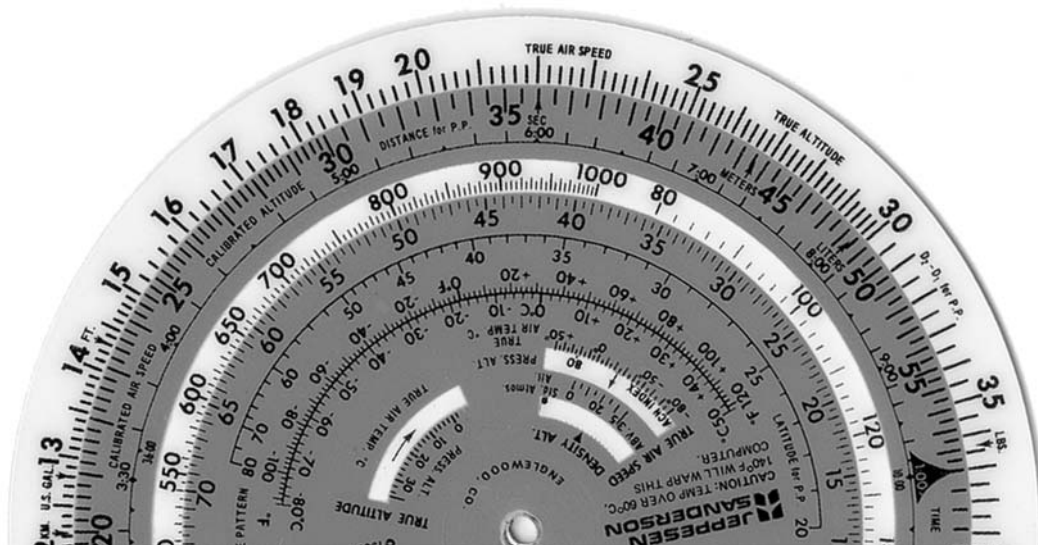

Figure 4.3-13 Minutes to Seconds
Conversions of minutes (and decimal minutes) to seconds, or vice versa, can be made by using the small "SEC" arrow and the rate index (▲) which are located on the TIME scale, see Figure 4.3-13. Place the rate index (inner scale) under the number of minutes on the outer (white) scale and read the number of seconds opposite the "SEC" arrow on the same scale.
2. On the DISTANCE (outer) scale, opposite the "SEC" arrow on the TIME (inner) scale, read the number of seconds (Figure 4.3-13).